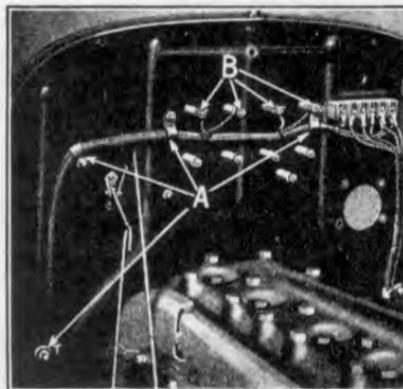

Fig. 93
- (a) Insert loom under the four loom clips on dash ( See "A" Fig. 93).